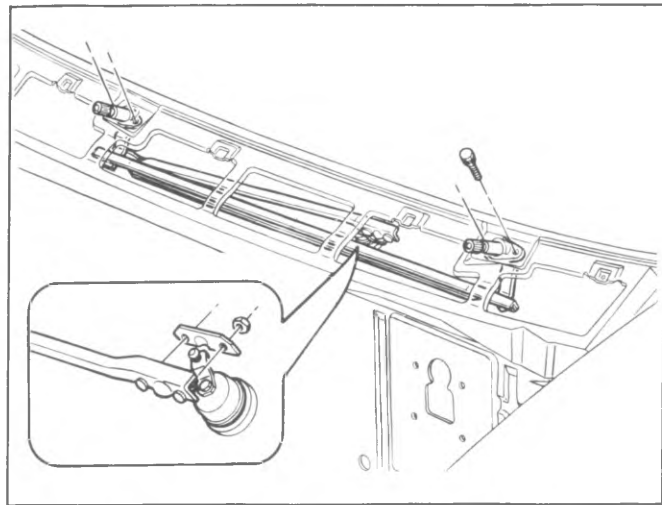

Fig. 2D-96--Windshield Wiper Linkage
2. Remove screws retaining grille, figure 2D-97.